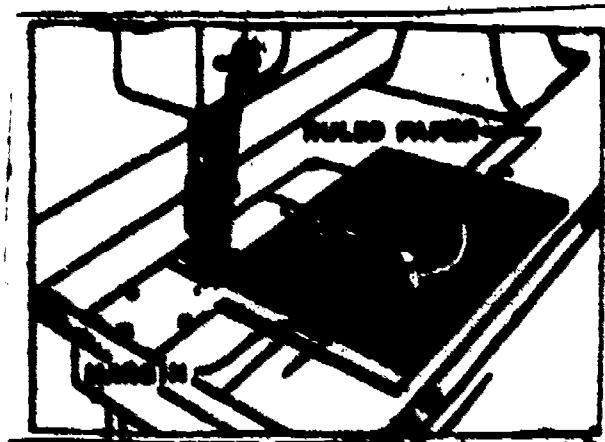

Figure 9. Sewing Straight Lines.
4. Insert the paper or card under the needle and turn the balance wheel until the needle pierces the first line of the paper near the edge, figure 9.